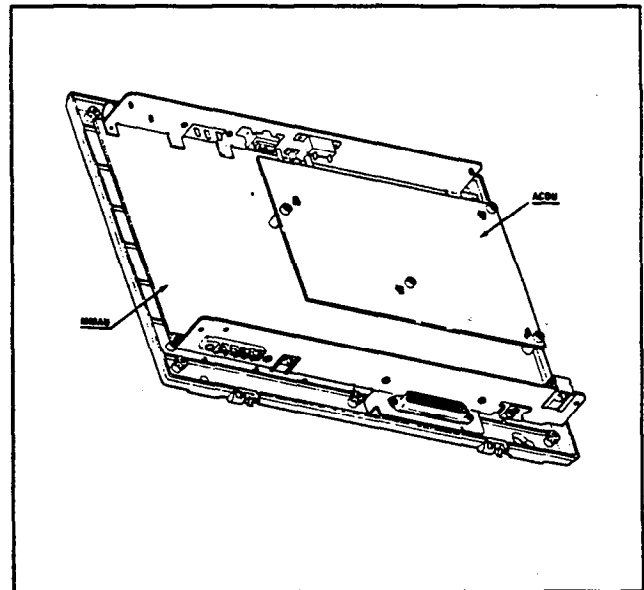

FIGURE 10—MKSU (Interior)
06.02 The MKSU arrangement illustrated in Figure 10 shows the locations of the various PCBs. The MMAU, which hosts the ACOU, is secured to the MSKU with six screws. The ACOU, attached to the MMAU with four screws, is connected to it via four 10-pin connectors.